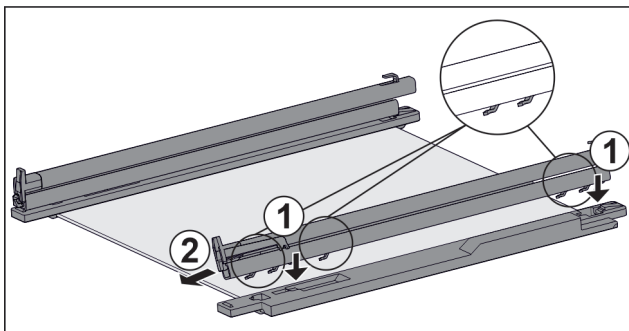

Fig. 105 Glass shelf with rails and retaining parts
- ▶ Place rail hooks onto the openings of the **left** retaining part. Fig. 105 (1)
- ▶ Push rail forwards. Fig. 105 (2)
- ▶ Place rail hooks onto the openings of the **right** retaining part. Fig. 105 (1)